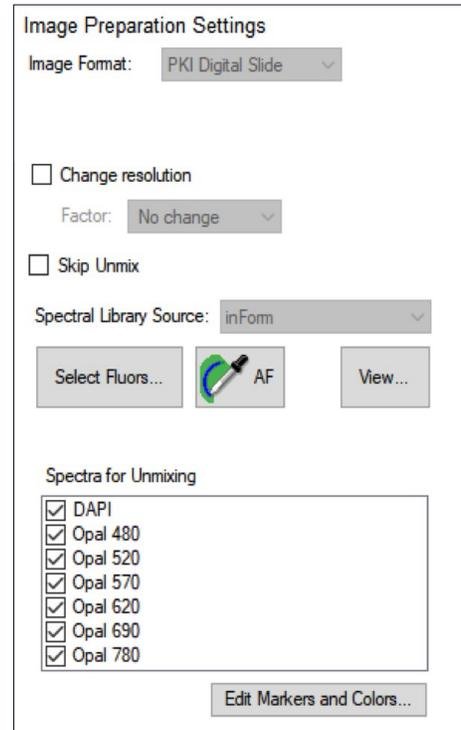

FIGURE 7.
4. Select the dropper tool to acquire the autofluorescence spectrum (see Fig.7).